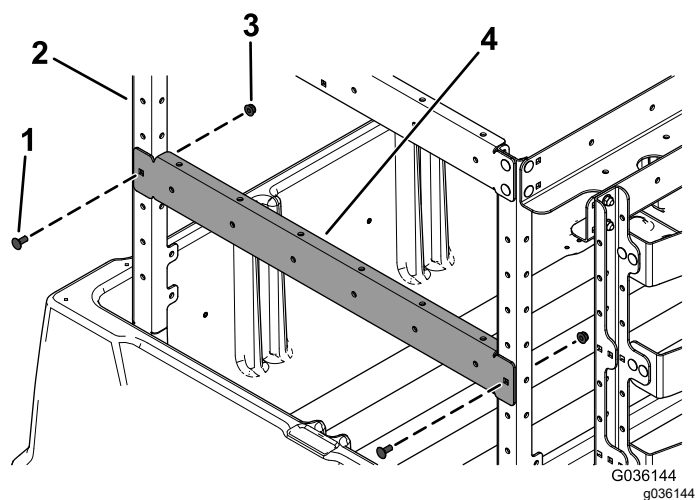

Figure 7
6. Install the front support bracket (with 1 hole on each side) to the 2 front upright frame brackets with 2 carriage bolts (5/16 x 3/4 inch) and 2 flange nuts (5/16 inch) as shown in Figure 7.